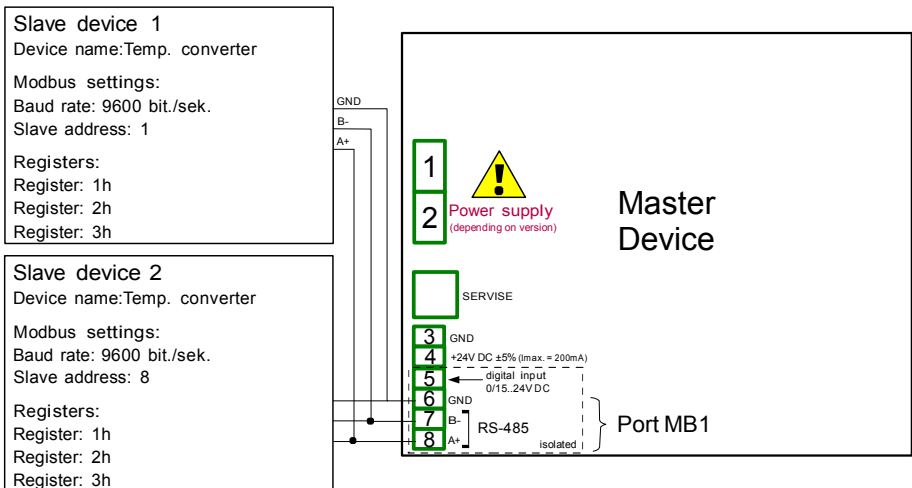

Fig. 7.129. Connection diagram for the Modbus port MB1
First configure the device then connect the SLAVE device to the Multi-Channel (in accordance with Fig. 7.129).
- using the arrows in upper right corner choose Port number: 1 (MB1 in accordance with Fig. 7.129),